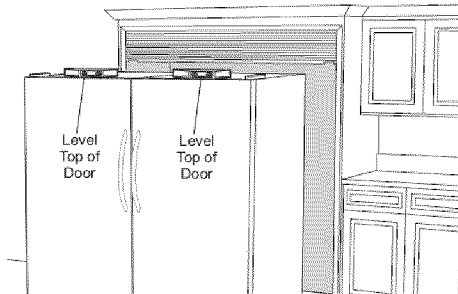

Figure 14
- Remove the plastic top hinge covers and replace with the supplied silver hinge covers (I).
- Place a carpenter's level across the top of the door. Using a tape measure, adjust all four levelers so that each door is level and to a height of 69-3/8" across top front edge of door. See Figures 14 and 16.